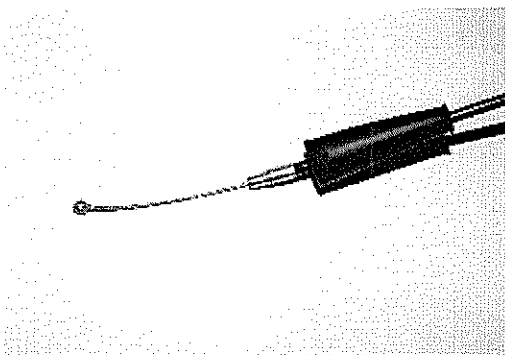

FIGURE 19
4. Inspect barrel end of throttle cable for proper retention. Properly retained barrel end will have no relative movement between it and inner cable. Any relative movement requires throttle cable replacement. FIGURE 19